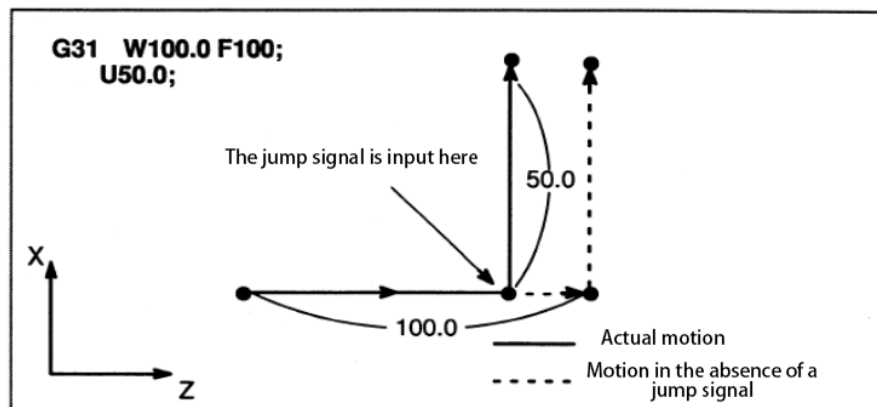

Figure 3-13
1. The next program segment of G31 is incremental coordinate programming, as shown in Figure 3-13